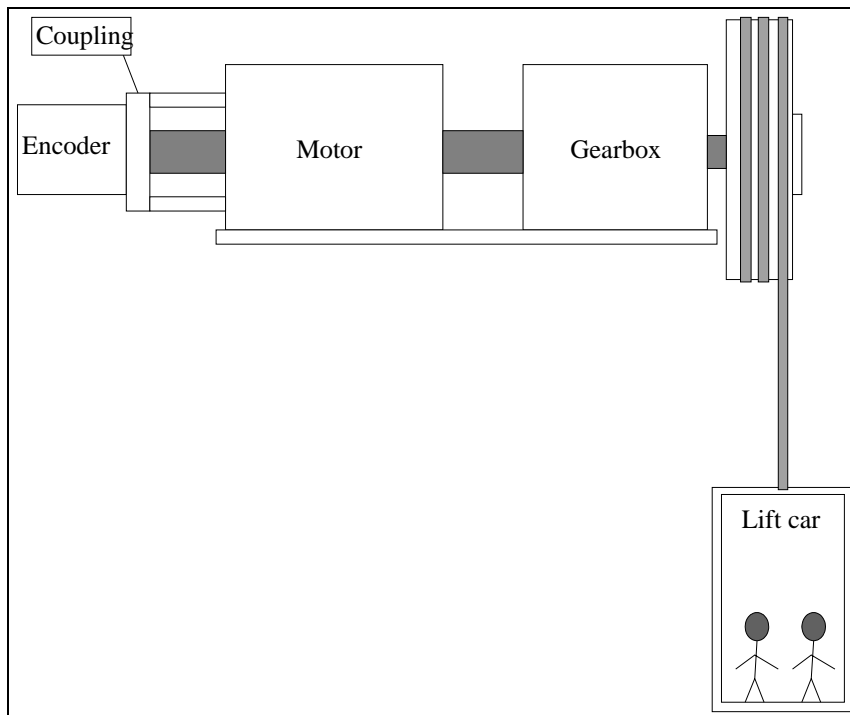

Figure 30
- Encoder has to be mounted directly on the motor axis. This is very important for proper function. Encoder must be centered to the motor axis. See figure 30.